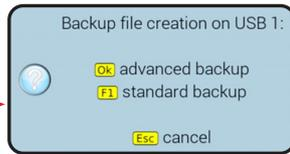

Fig. 292
- Select **Delete all backup files on USB1** (Fig. 292) and press **OK**. The monitor requires to confirm the deletion (**OK**: confirm, **ESC**: cancel).